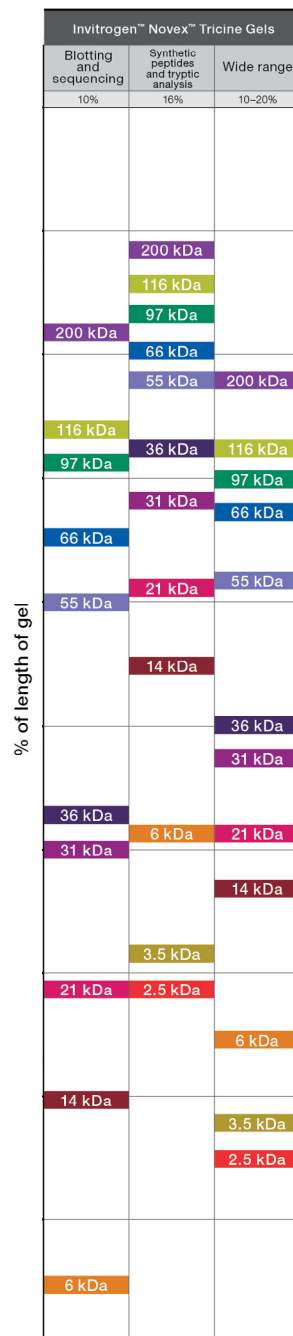

Figure 17. Novex Tricine gel migration chart. Migration patterns of the Mark12 Unstained Standard are shown.
- Increased resolution of proteins with molecular weights as low as 2 kDa (Figure 17)